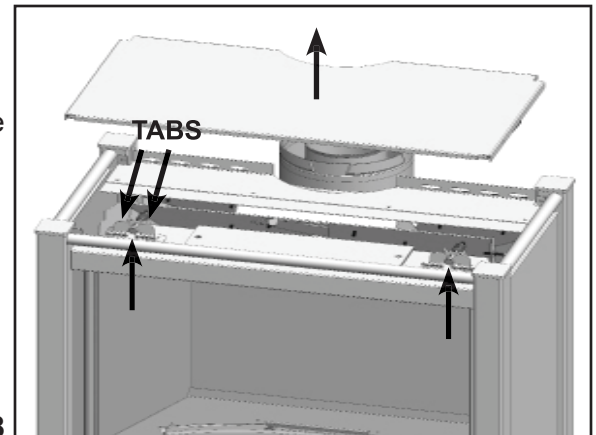

Fig.8
2. There are two door latch mechanisms on the top of the glass door.(Fig.8) Pull the tabs forward and up off the door tabs.